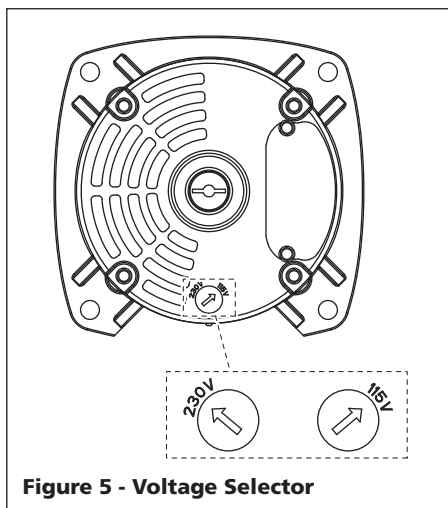

Figure 5 - Voltage Selector
5. Check motor voltage setting on motor end plate and make sure the line voltage of the electrical current supply is correct (see figure 5 on page 3).
The voltage of power supply must match the voltage of the pump. The WLS75, WLS100 and WLS150 have dual voltage motors preset at the factory to 230 volts. The motors can be converted to 115 volts by turning the voltage selector to the desired voltage (See Figure 5). Use a needle nose pliers to pull the selector out approximately 1/4", rotate and then reinsert in correct position. **NOTE: The WLS200 cannot be converted; the motor is 230 volts only.**